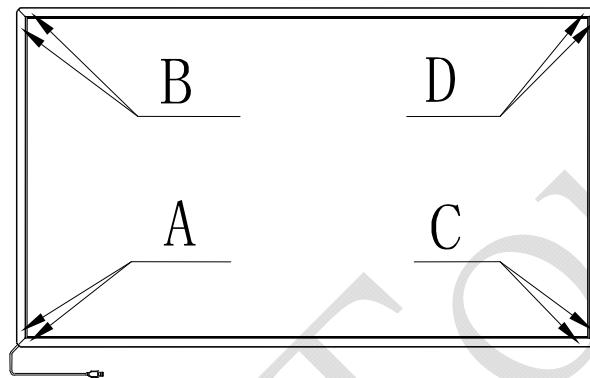

Fig.2 Touch frame Diagram
- 1) Put the four sides of the touch frame in accordance with the corresponding order of A, B, C, D sequence, as shown in Fig. 2 (note: the USB outlet position, A, is placed in the lower corner of the touch frame). Please ignore steps 1 ~ 7, if the touch frame is assembled shipment.